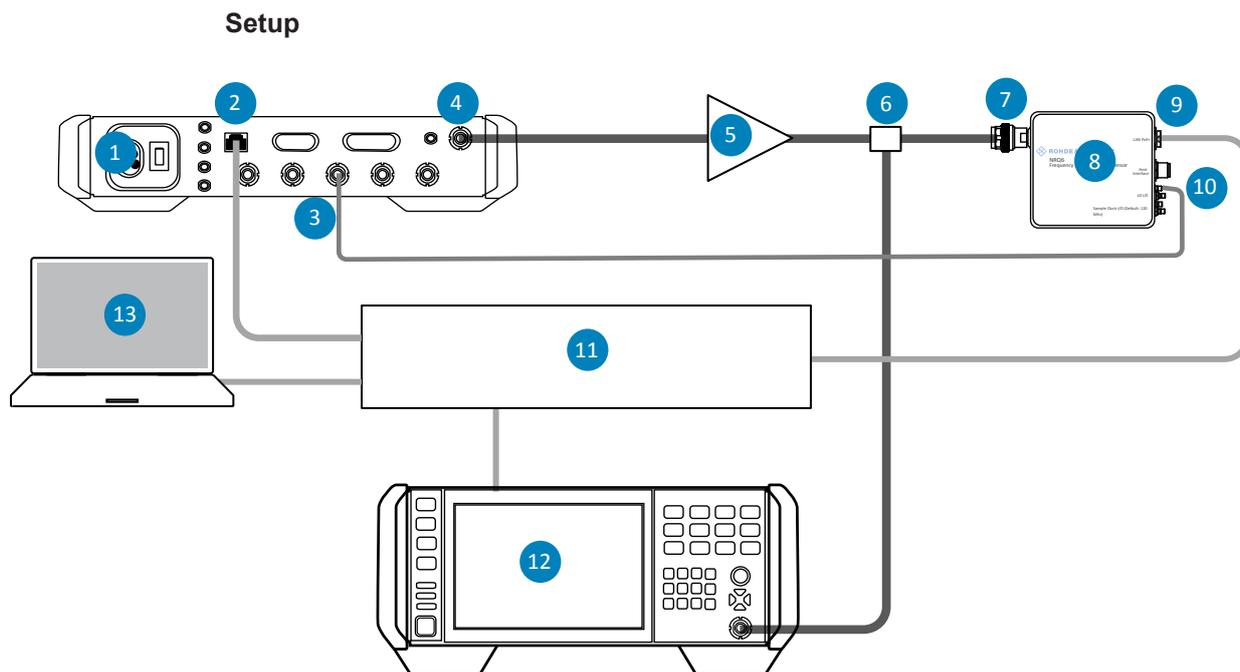

Figure 3-1: Cabling
1. Connect the instruments as shown in Figure 3-1.
For this example, the power splitter and spectrum analyzer shown in Figure 3-1 are not required.